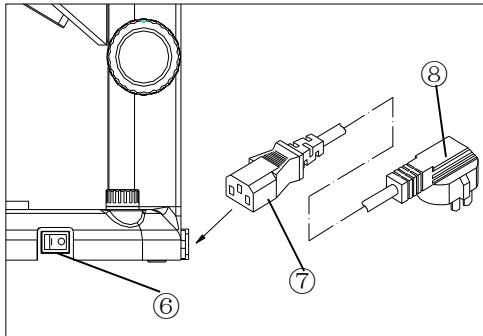

Fig 4
2.2.3 Cable connecting (fig.4)